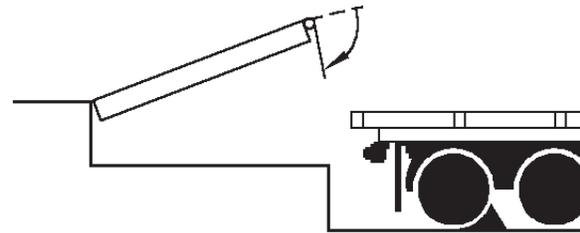

Figure 21
6. When loading or unloading is finished, raise the platform by pressing and holding the RAISE button or holding the pull ring until the lip folds enough to land in the lip keepers, then release the RAISE button or pull ring. The platform will return to the cross-traffic position. See Figure 21.